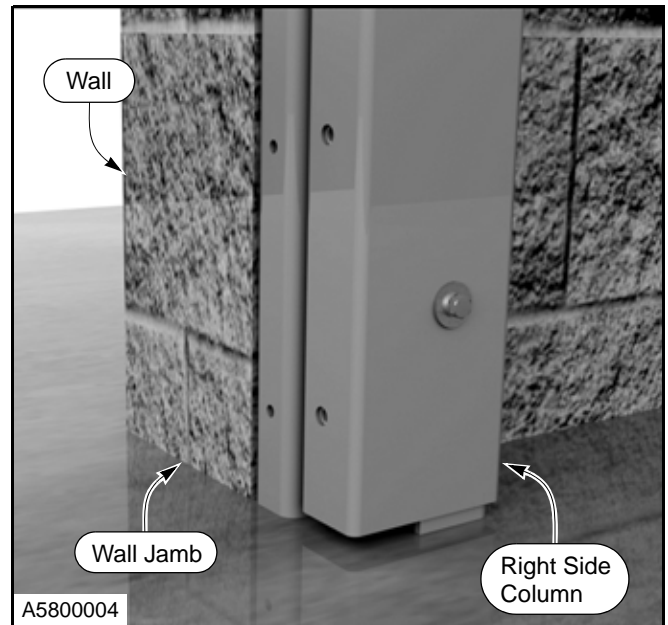

Figure 11
3. Once the side column is set plumb and square, bar clamp it to the wall. (See Figure 11.)